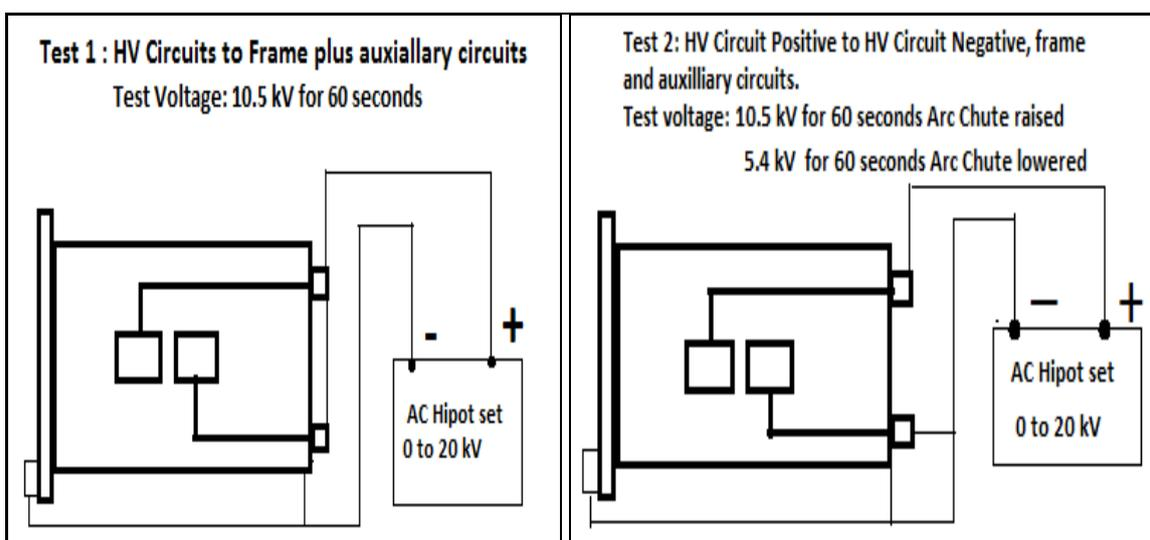

Figure 18.1 Hi-pot insulation tests
- Connect the Hi-pot test set as shown in figure 18.1 Test 1 for testing the insulation of the power circuits.
- Connect the Hipot test set as shown in figure 18.1 Test 2 for testing the insulation between the power circuits at the voltages shown with the arc chute raised and lowered for 60 seconds respectively.